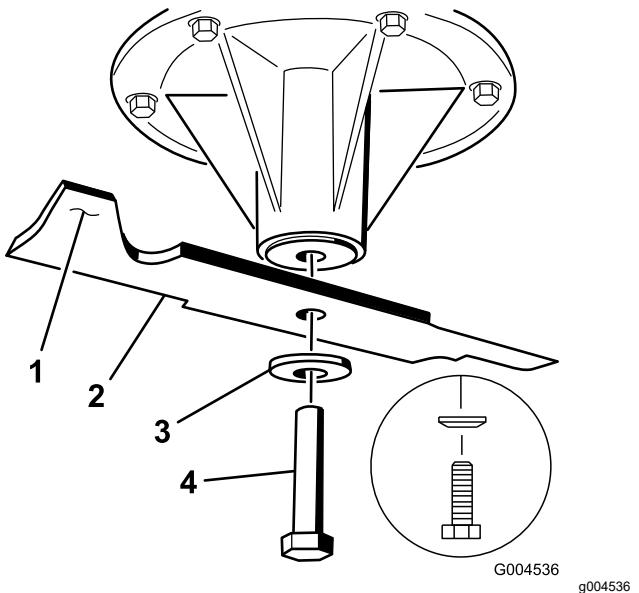

Figure 86
1. Install the left and center blades, curved washers, and blade bolts to the spindle shafts (Figure 86 and Figure 87).
**Note:** Ensure the curved-washer cone is installed toward the bolt head (Figure 86).
2. Install the right blade, curved washer, and blade bolt (left-hand threaded bolt) to the spindle shaft (Figure 86 and Figure 87).